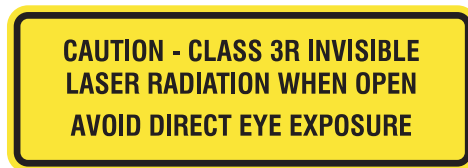

FIG. 11 Caution label for Class 3R laser products
- FIG. 11 shows a DGX TX and a DGX RX used in conjunction with DGX Fiber boards in a DGX matrix switcher.